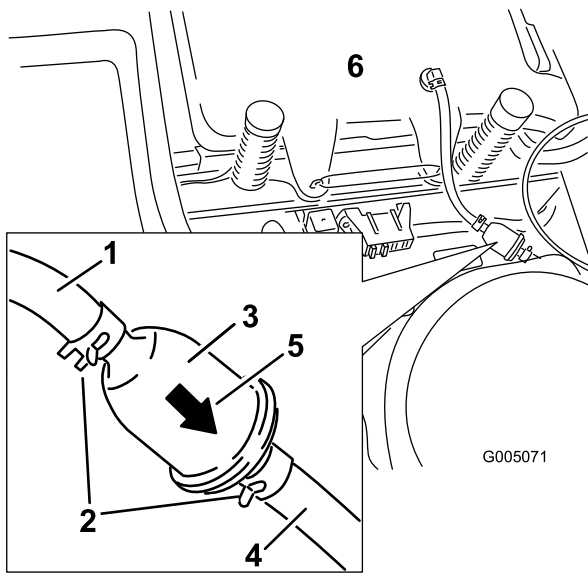

Figure 38
4. Squeeze the ends of the hose clamps together and slide them away from the filter (Figure 38).
6. Install a new filter with the flow direction arrow coming from the fuel tank and pointing to the engine. Move the hose clamps close to the filter (Figure 38) to secure it in place.